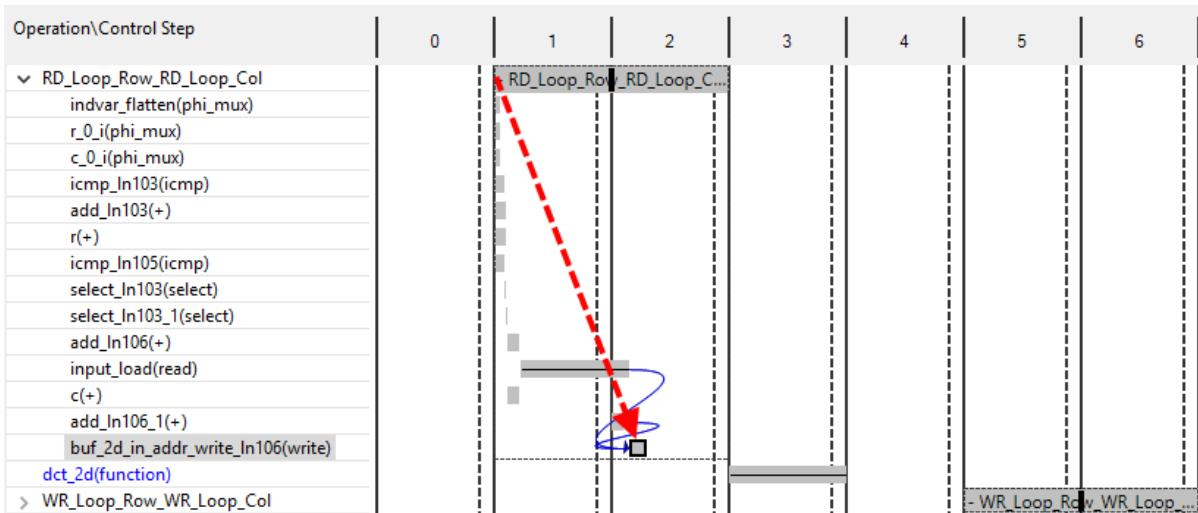

Figure 6-21: Analysis of DCT RD_Loop_Row
- In the **Schedule Viewer**, expand the first loop in the design as shown in Figure 6-21, **RD_Loop_Row_RD_Loop_Col** (these loops were flattened and the name is now a concatenation of both loops).
This loop is implemented in two states. The red arrow in Figure 6-21 shows the path from the start of the loop to the end of the loop: the arrow is almost vertical (everything happens in two clock cycles) and this loop is well implemented in terms of latency.